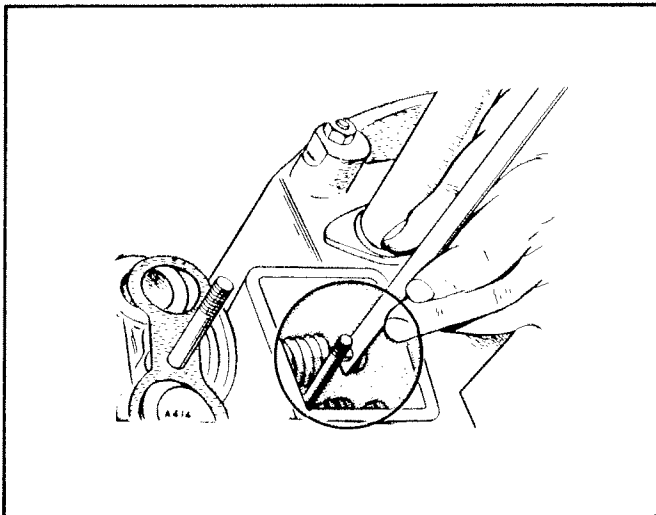

FIGURE 24. VALVE CLEARANCE
5. For the intake valve, a .007" thickness gauge should pass freely between valve stem and tappet, a thicker .009" gauge should not. (Figure 24)